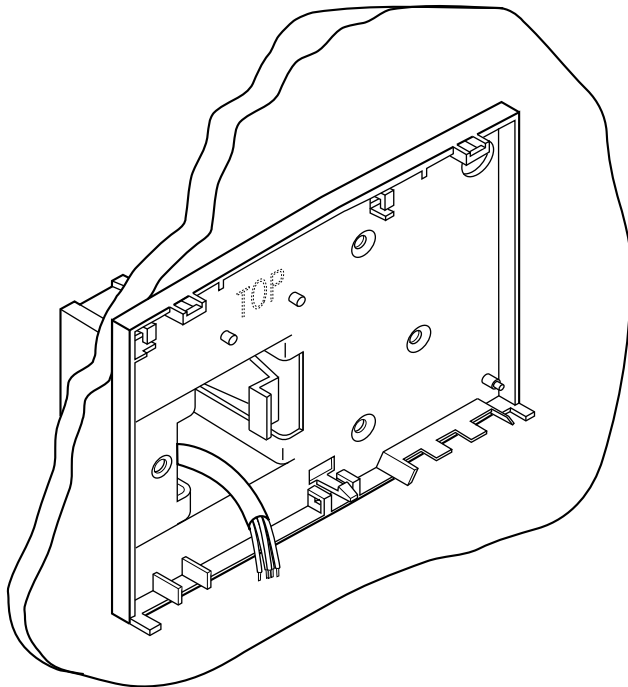

Fig. 4—Mounting Back Plate
2. Pull 5-wire cable from smart sensor power pack through hole in back plate housing of smart sensor, and then insert housing into the wall. (See Fig. 4.)